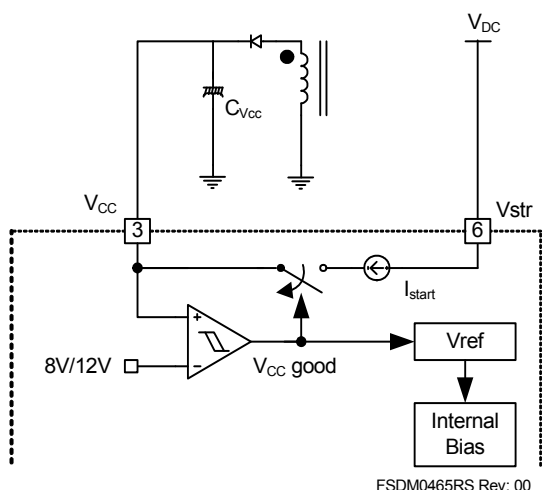

Figure 17. Internal startup circuit
1. Startup: In previous generations of Fairchild Power Switches (FPS™) the V_{CC} pin had an external start-up resistor to the DC input voltage line. In this generation the startup resistor is replaced by an internal high-voltage current source. At startup, an internal high-voltage current source supplies the internal bias and charges the external capacitor (C_{VCC}) that is connected to the V_{CC} pin as illustrated in Figure 17. When V_{CC} reaches 12V, the FSDM0465RS begins switching and the internal high-voltage current source is disabled. Then, the FSDM0465RS continues its normal switching operation and the power is supplied from the auxiliary transformer winding unless V_{CC} goes below the stop voltage of 8V.